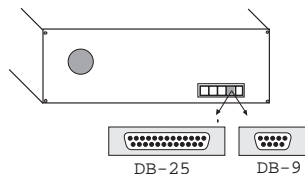
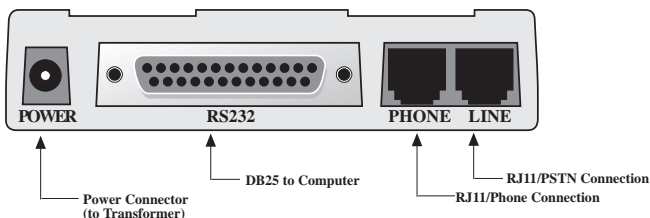

Figure 2-1. Serial connectors at PC end
Figure 2-2. Modem Connections
The LINE jack is not interchangeable with the PHONE jack (see rear of modem, Figure 2-2). Do not plug the telephone into the LINE jack or the line cable into the PHONE jack. BAPT regulations require that the telecommunication cable be connected to the modem prior to being connected to the network.
2. Attach the modem to your PC or terminal with an RS232 (or V.24) cable (see Figure 2-1 and Figure 2-2). Be sure to tighten the mounting screws on the DB connectors.